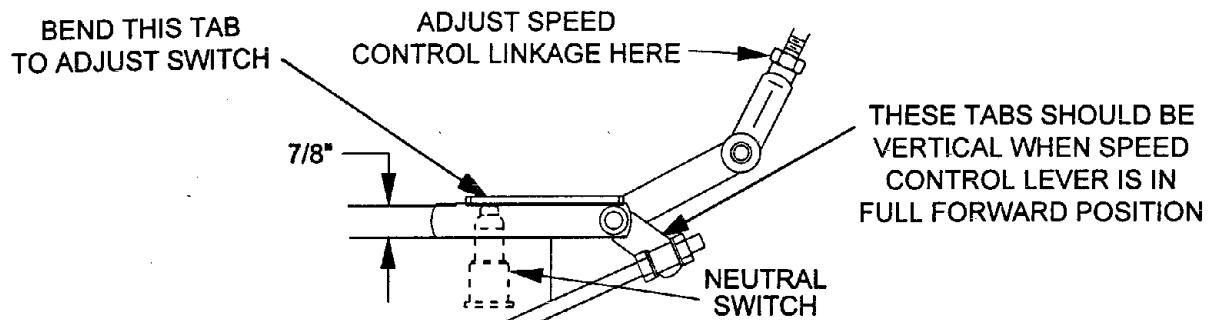

FIG. 8
2. Move speed control lever (located on console) to the full forward position and check orientation of tabs on the ends of the speed control crank (fig. 8). These tabs should be pointing straight down at the 6 o'clock position or slightly forward. Adjust threaded yoke at the bottom of speed control linkage (fig. 8) until tabs are positioned correctly.
3. Pull speed control lever back to neutral. Check that the dimension between the bottom forward tip of neutral switch actuating tab (located at the left hand rear corner of fuel tank) and the top of the fuel tank support is $7/8$ " (fig. 8). If it is not, bend tab on speed control crank to attain $7/8$ " dimension.